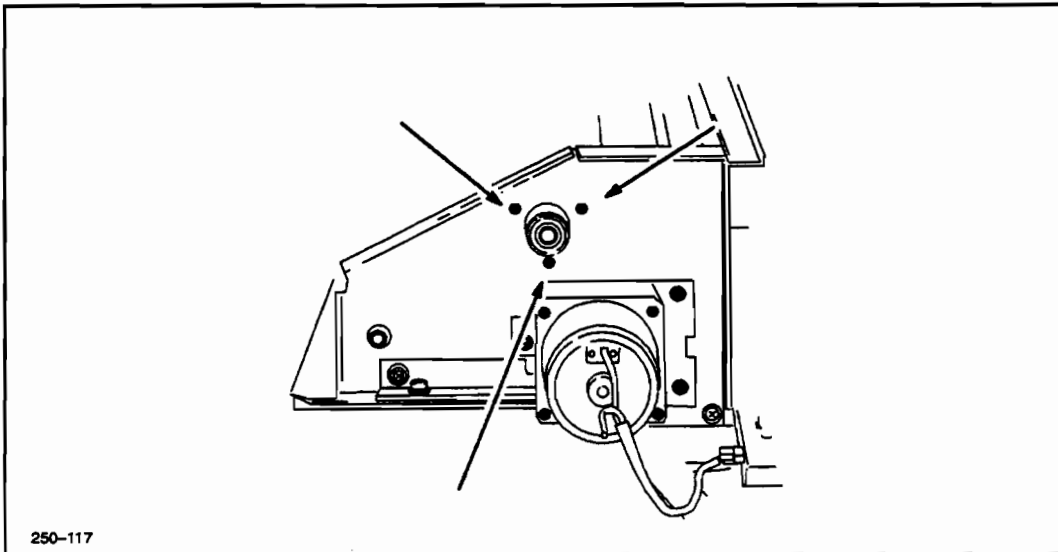

Figure 6-77. Right-Hand Bushing
7. To remove the bushing, remove the three (3) screws as shown in Figure 6-77.